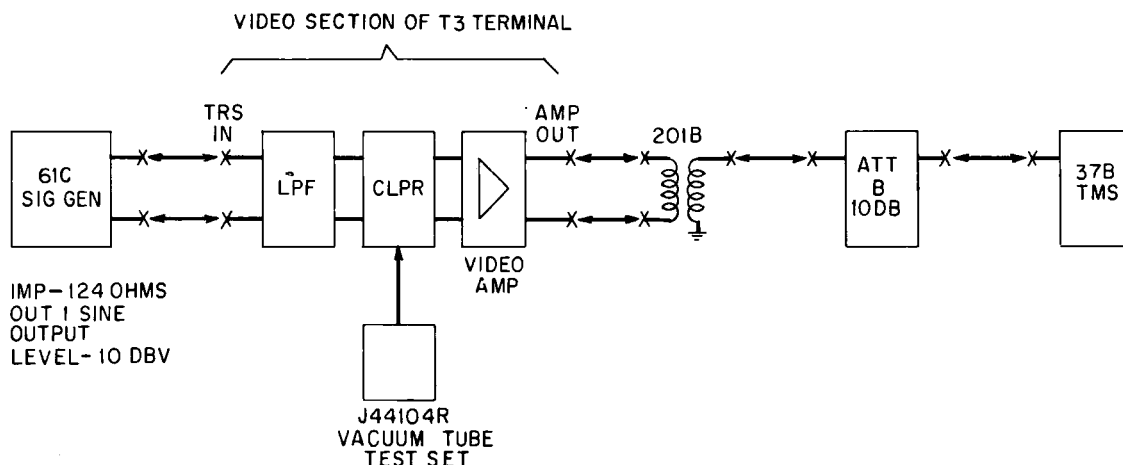

Fig. 20 — Test Arrangement for Clipper Balance Control Adjustment and Feed-back Gain Check — T3 Terminal
- (1) Set up the test arrangement of Fig. 20 with 61C signal generator controls set as indicated.
- (2) Set the carrier level control key to BAL.
- (3) Set the 61C to 3.6 mc and adjust the level monitor for zero reading.
- (4) Plug the cord connector of the J44104R vacuum tube tester into the receptor on the clipper panel. Set the test set selector switch to position V3A. This operation disables the clipper circuit.
- (5) Tune the 37B TMS to 3.6 mc and measure the output on the expanded scale. Note this reading carefully.
- (6) Remove the vacuum tube tester cord connector from the clipper. This restores the clipper to normal operation.
- (1) Set up the test arrangement of Fig. 20 except for the omission of the vacuum tube test set and the change in settings of the 61C signal generator.
- (2) Set the controls of the 61C signal generator as follows: